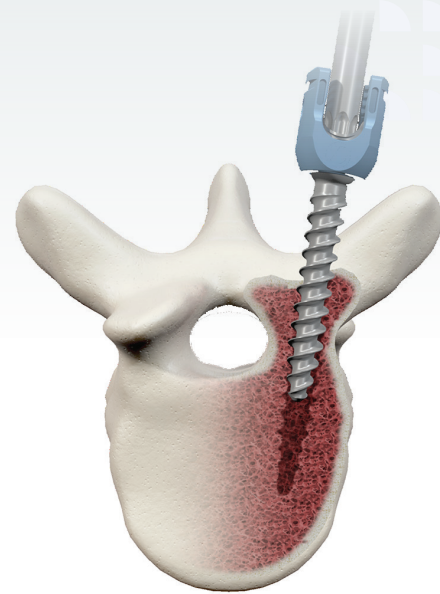

Figure 11
- Use the handpiece to slowly drive the selected screw into the pedicle. The screw should self-center in pilot hole previously created (**Figure 11**).